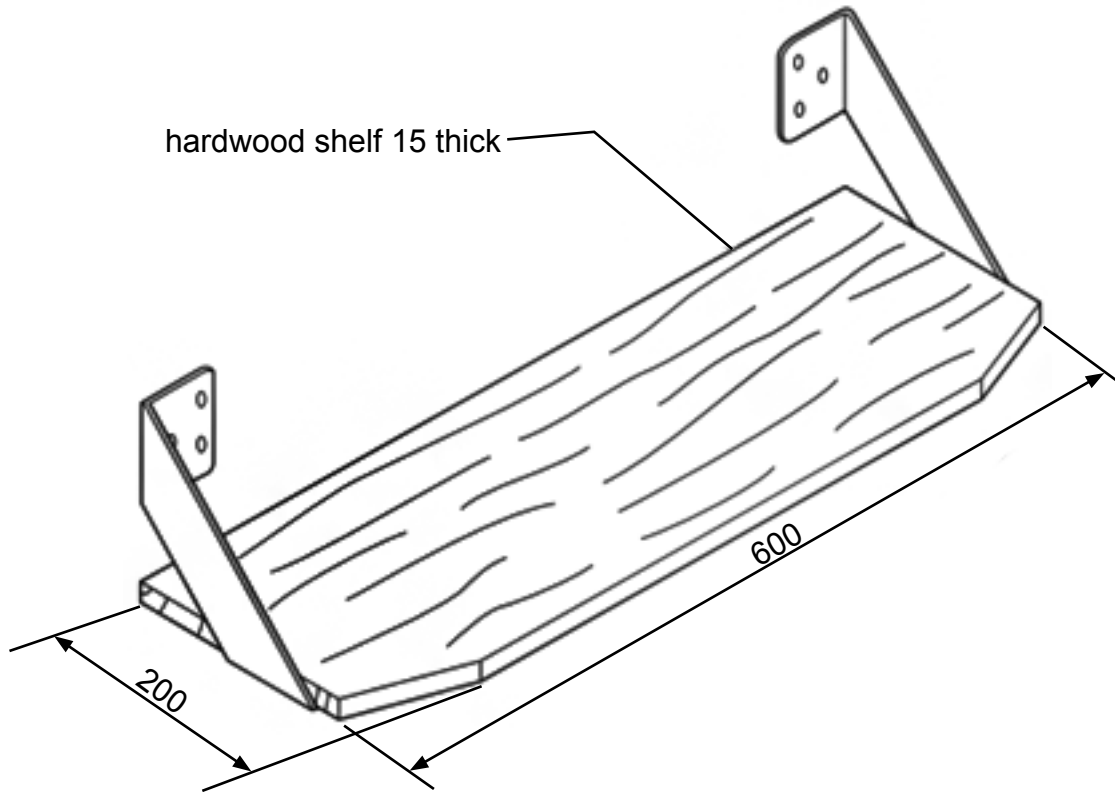

Fig. 20
- (i) Fig. 20 shows a hardwood shelf supported by two end brackets. The brackets could be made from acrylic or aluminium.